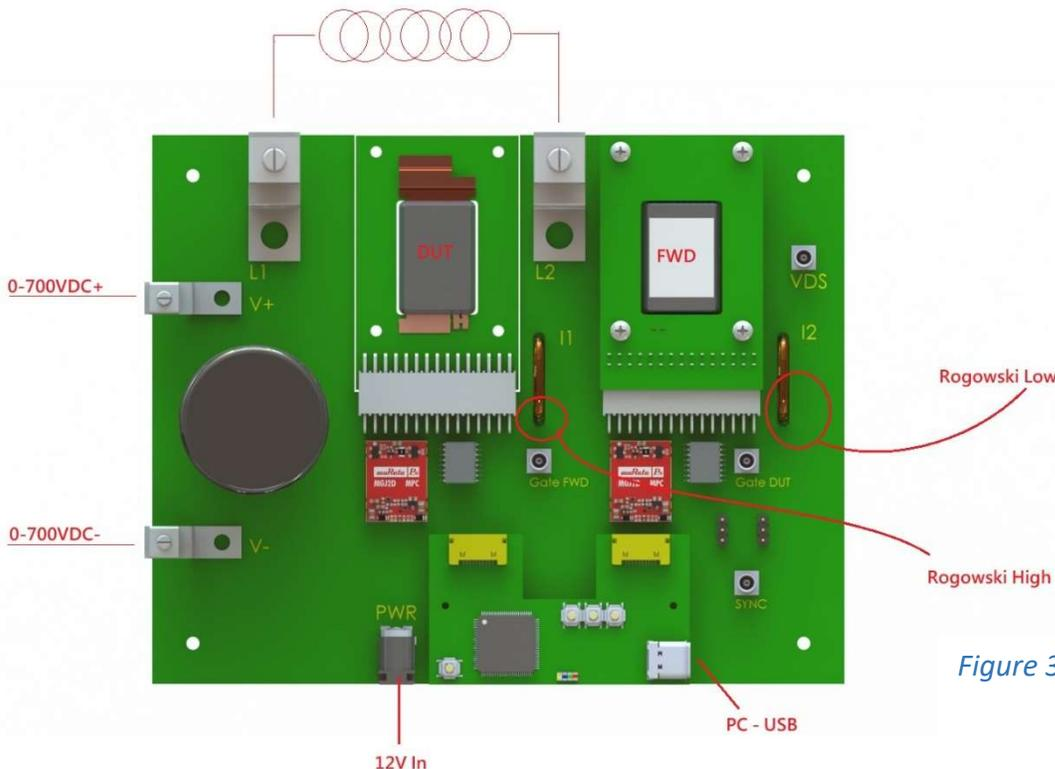

Figure 3: Connections
- Install the Rogowski (or Hall-effect) current probe in the source cavity as shown in Figure 3.